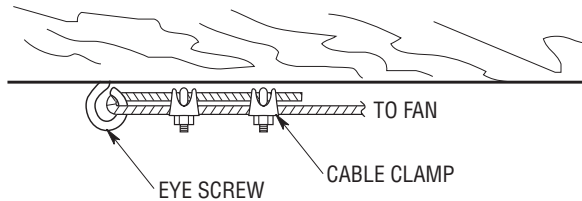

Figure 10
- 16. Pass the end of the safety cable through the two cable clamps (supplied) (Figure 10). Pass the end of the safety cable through the eye screw and then back through the two cable clamps.
CAUTION: It is important to note the proper installation position of the cable clamps as illustrated in Figure 10. **TO** obtain maximum holding power, install U-bolt section of clip on dead or short end of cable and saddle on long end of cable. Improper installation reduces the efficiency of the connection by as much as 40 percent.